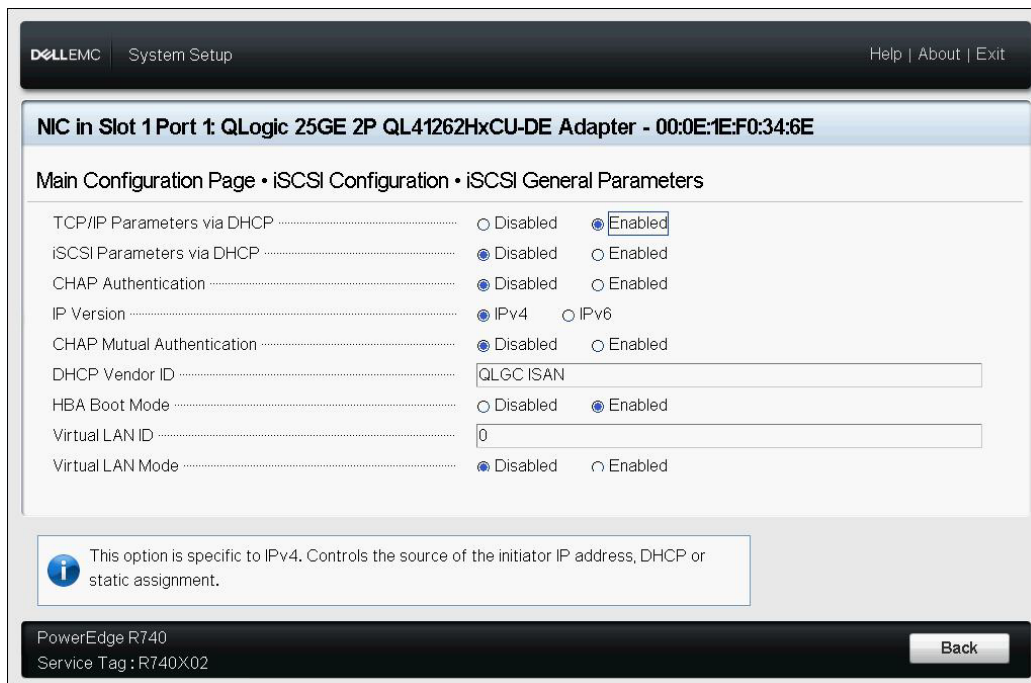

Figure 6-7. System Setup: iSCSI General Parameters
3. On the iSCSI General Parameters page (Figure 6-7), press the DOWN ARROW key to select a parameter, and then press the ENTER key to input the following values (Table 6-2 on page 76 provides descriptions of these parameters):
- The label will change to **IPv6** or **IPv4** (default) based on the IP version set on the iSCSI General Parameters page (Figure 6-7 on page 75).